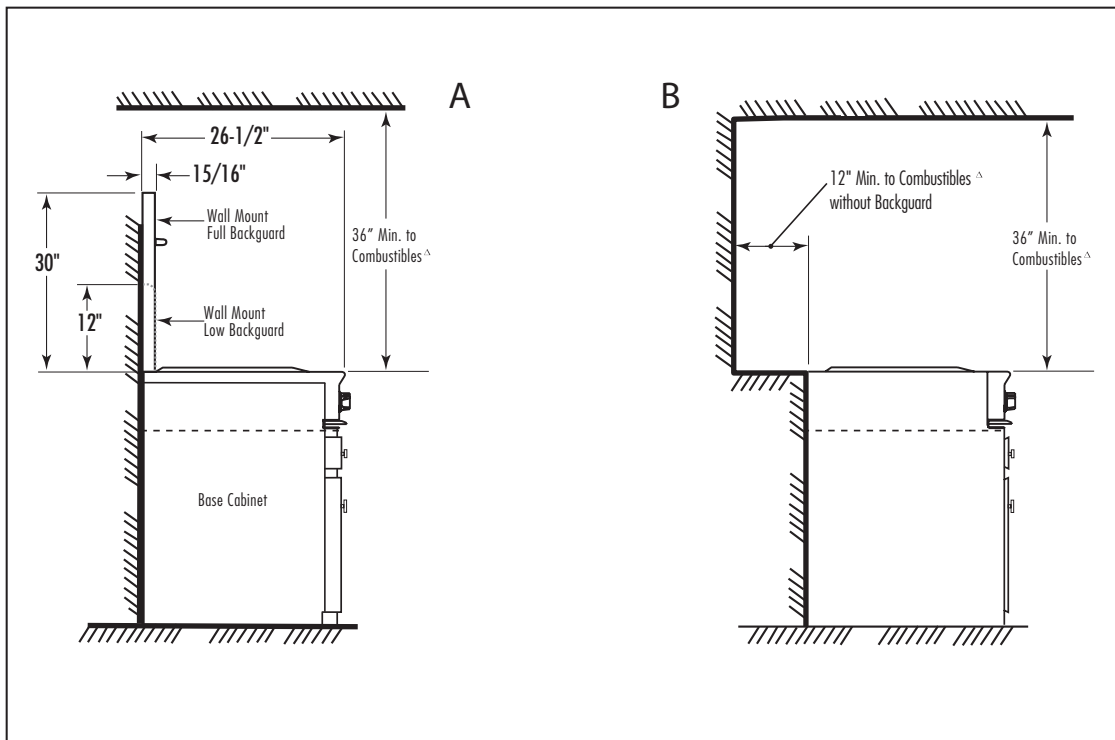

Fig. 5
- 2) The clearances shown in Fig. 5 pg. 10 are required for all types of backguard installations.
The backguard must be installed when there is less than a 12" clearance between combustibles and the back of the cooktop (above the cooking surface, see Fig. 5, page10).